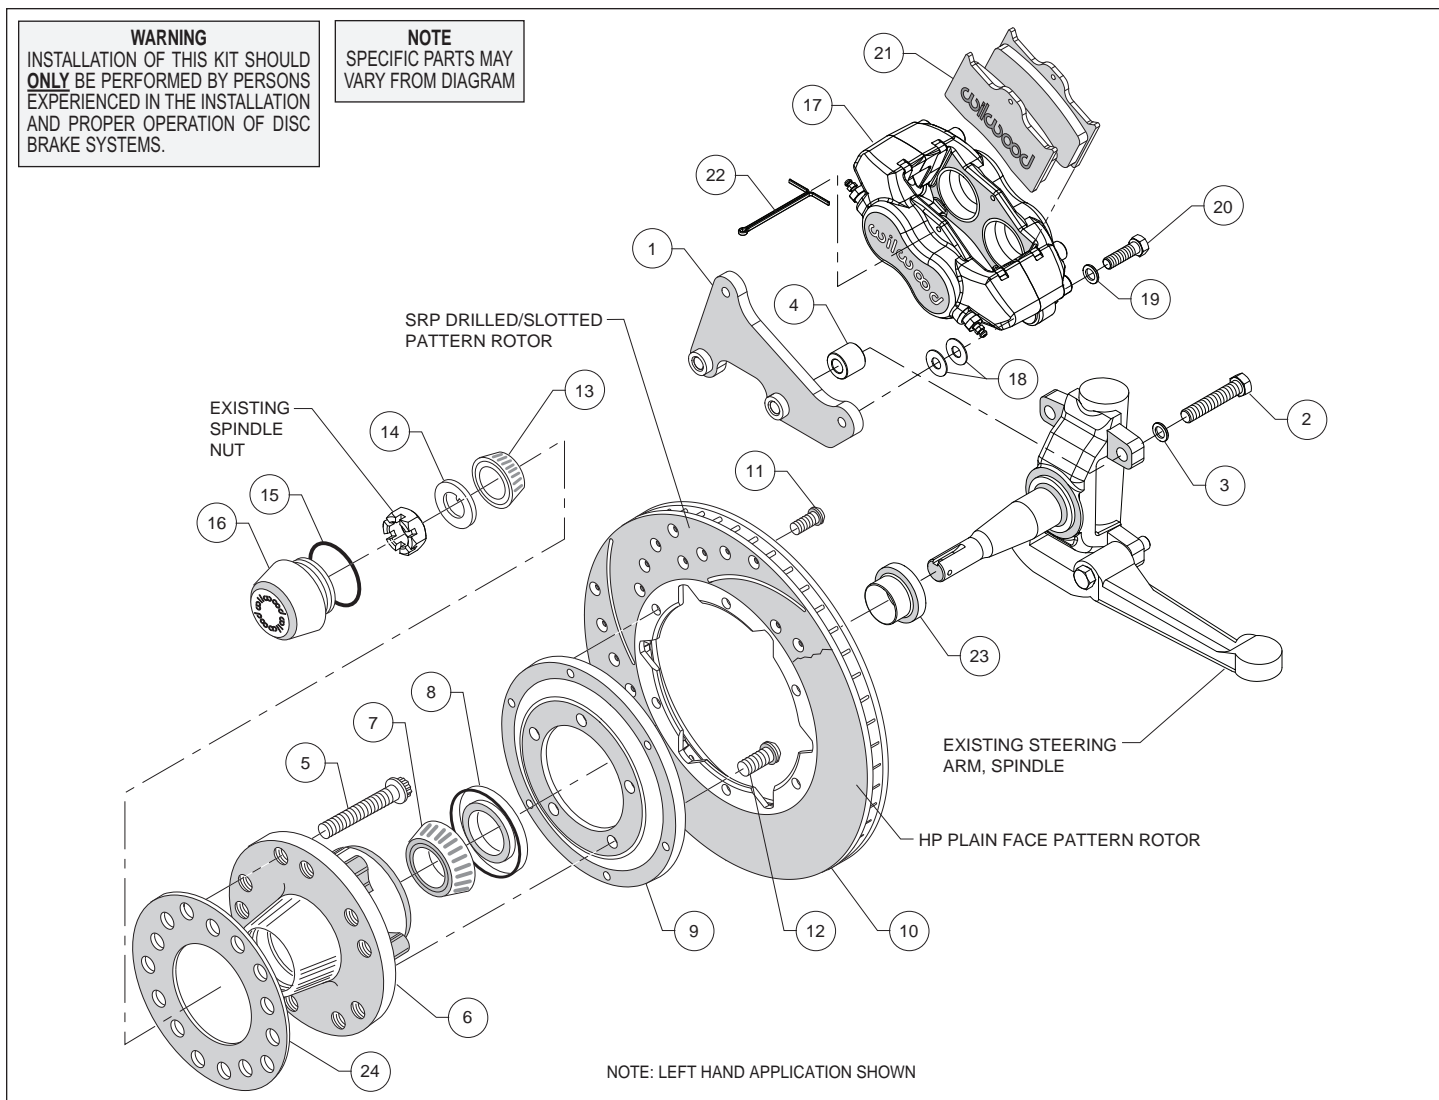

Figure 1. Typical Installation Configuration
**Assembly Instructions** (numbers in parenthesis refer to the parts list and Figure 1 on the preceding pages): **CAUTION:** All mounting bolts must fully engage clinch nuts. Be sure to check that all bolts are either flush or protruding through flanged side of clinch nut after shimming, Figure 3.
- Orient the caliper mount bracket (1) as shown in Figure 1, and install using bolts (2) and washers (3). Place a spacer (4) on each bolt between the bracket and caliper mounting bosses, Figure 1. Ensure that the flanged heads of the clinch nuts in the bracket are facing outboard. Temporarily tighten the mounting bolts. **NOTE:** The bracket must fit squarely against the mount bosses on the upright. Inspect for interference from casting irregularities, machining ridges, burrs, etc. Remove bolts one at a time, apply red *Loctite*® 271 to the threads and torque to 70 ft-lb.
- Slide the inner bearing spacer (23) onto the spindle with the larger O.D. facing inward, Figure 1 and Photo 1.
- Install wheel studs (5) into the hub (6), Photo 2. Torque to 77 ft-lb. **NOTE:** There are two five lug patterns in the hub (5 x 4.75 and 5 x 5.00). Ensure the correct hub stud pattern is being used to fit the wheel application.
- Pack the large inner bearing cone (7) with high temperature disc brake bearing grease (available from your local auto parts store) and install into the backside of the hub (6), Photo 3.
- Install the grease seal (8) by pressing into the backside of the hub (6), flush with the end of the hub, Photo 3.
- Orient the rotor (10) and the rotor adapter (9) as shown in Figure 1 and Photo 4. Attach the rotor to the adapter using bolts (11). Using an alternating sequence, apply red *Loctite*® 271 to the threads, and torque to 25 ft-lb.
- Mount the adapter/rotor assembly (9/10) to the hub (6) using bolts (12), as shown in Figure 1 and Photo 5. Using an alternating sequence, apply red *Loctite*® 271 to the threads, and torque to 45 ft-lb.
- NOTE:** Please reference the caution statement at the beginning of the assembly instructions. Mount the caliper (17) onto the caliper mounting bracket (1) using bolts (20) and washers (19), as shown in Figure 1. Initially place two .035" thick shims (18) on each bolt between the caliper and the bracket, Photo 8. Temporarily tighten the mounting bolts and view the rotor (10) through the top opening of the caliper. The rotor should be centered in the caliper, Photo 9. If not, adjust by adding or subtracting shims between the bracket and the caliper. Always use the same amount of shims on each of the two mounting bolts. **NOTE:** The end of each bolt must be flush with or slightly protruding from the head of the clinch nut, as shown in Figure 3. If necessary place spare shims between washer (18) and caliper mounting ear to achieve the proper clinch nut engagement. Later, after the calipers are bled, the caliper mounts bolts will be secured using red *Loctite*® 271.